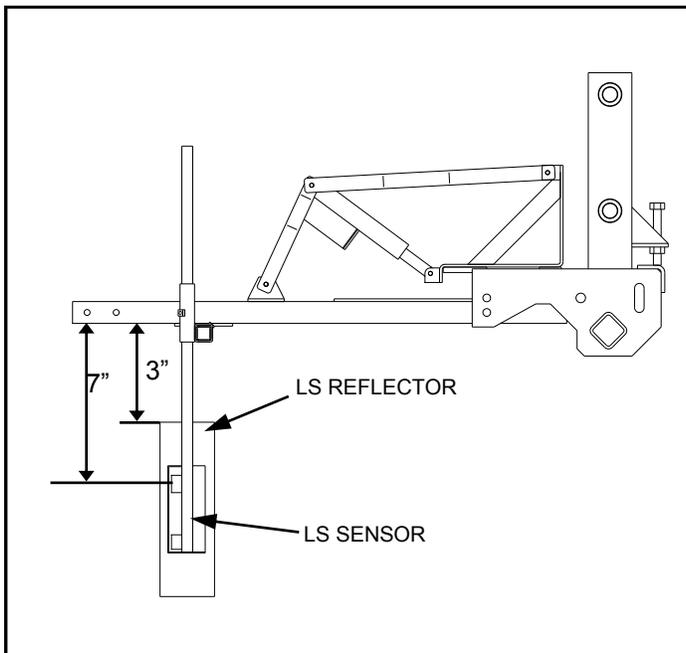

FIG 4.31
6. With a tape measure, set the center of the top Tasselrol[®] sensor to a depth of seven inches (fig. 4.31). Set the top edge of reflector to three inches (fig. 4.31).